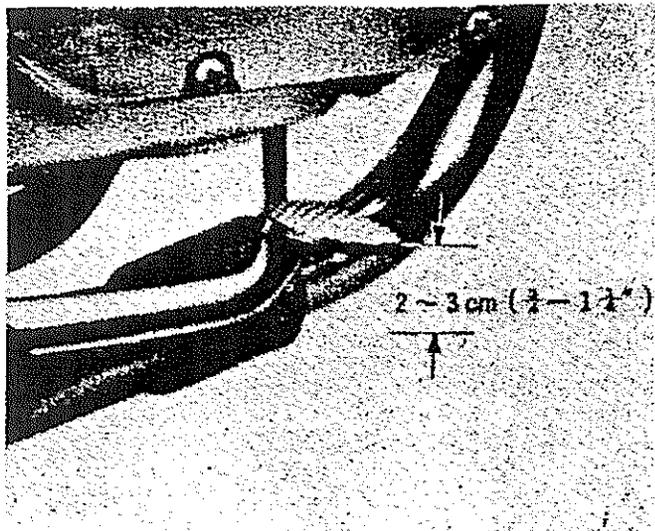

Fig. 19
- b) With the adjusting lock nuts on front panel (Fig. 19)
- a) Rear brake should be adjusted so that brake pedal can be depressed 20-30 mm (1-1 1/4") before brake acts. (Fig. 19)